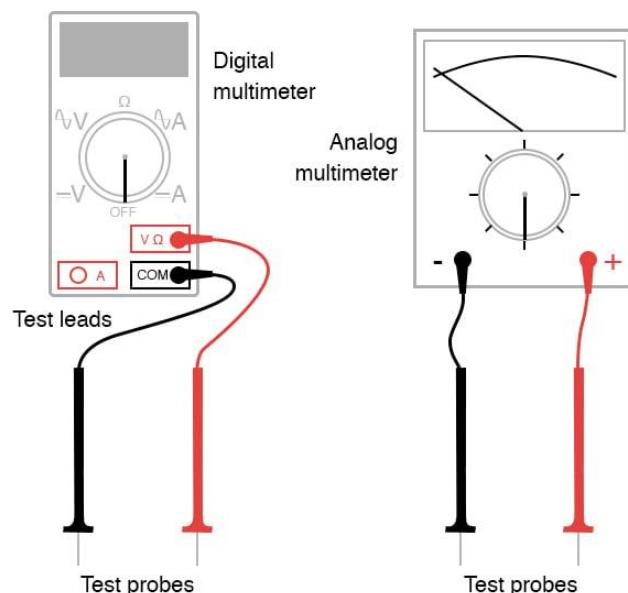

Figure 3. Digital and analog multimeters for measuring voltage, current, and resistance
As illustrated in Figure 3, there are two types of multimeters: digital and analog.
Step 1: Insert your test probes into the voltmeter. By convention, black probes are used with the negative, or common, input of the voltmeter, while red probes are used with the positive input (see Figure 3).